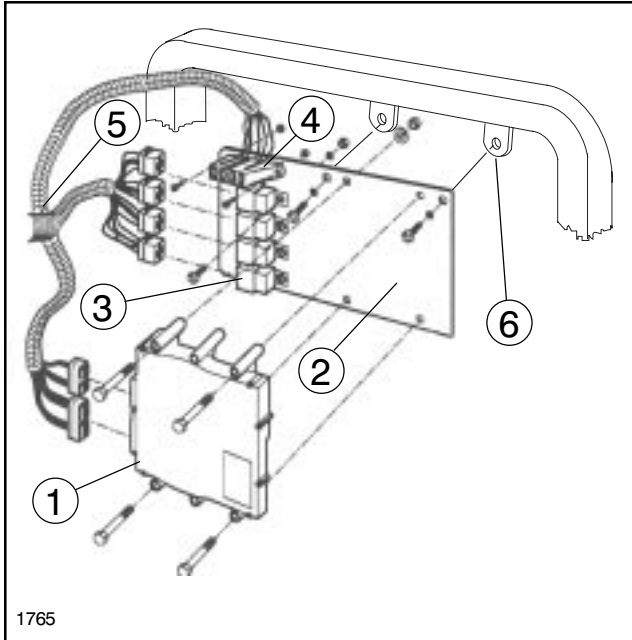

FIG. 14
1. Mount ECU to Plate using four (4) 1/4 NC x 2-1/2" hex hd cap screws, lock washers and hex nuts. See FIG. 14.
2. Mount four (4) Relays to Plate using 1/4 NC x 5/8" hex hd cap screws, lock washers and hex nuts.
3. Mount Fuse Block to Plate using two (2) # 10 NCx5/8" rec. hex hd. mach. screws and hex nuts.
5. Mount ECU plate to Vehicle post on left side under Dash, using two (2) 5/16 NC x 3/4" cap screws and lock washers. See FIG. 14.